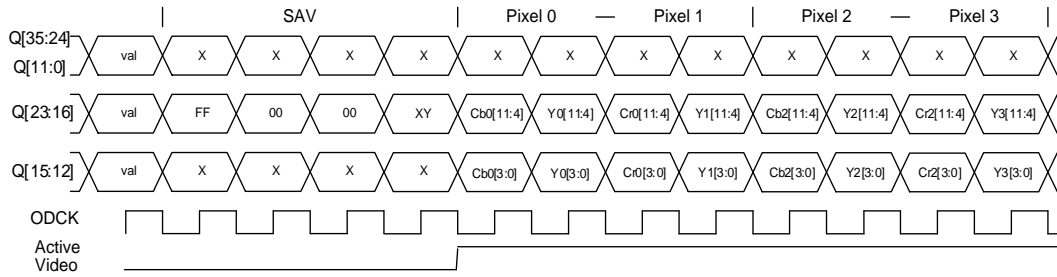

Figure 8.9. YC Mux 4:2:2 Embedded Sync Encoding Timing Diagram
This mode is similar to that shown in Figure 8.7 on page 53, but with embedded syncs. It is similar to YC 4:2:2 with embedded syncs, but also multiplexes the luminance (Y) and chrominance (Cb and Cr) onto the same pins on alternating pixel clock cycles. Normally this mode is used only for 480i, 480p, 576i and 576p modes. Output clock rate is half the pixel clock rate on the link. SAV code is shown before rise of DE. EAV follows the falling edge of DE. See the ITU-R BT.656 Specification. 480p, 54-MHz output can be achieved if the input differential clock is 54 MHz. Figure 8.9 on the next page shows OCLKDIV = 0 and OCKINV = 1.